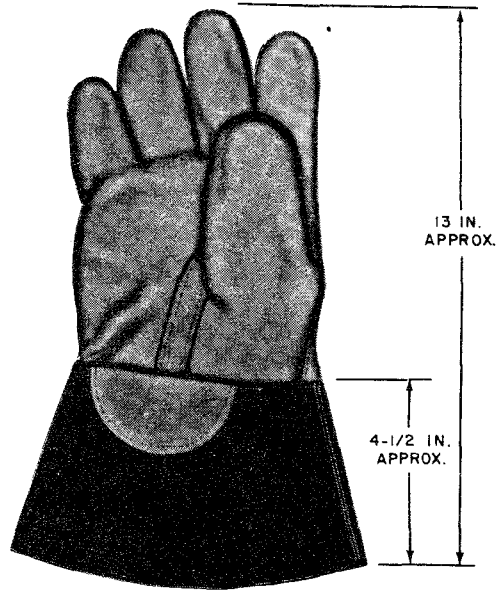

Figure 2 - Leather Protector Glove
4.01 The D leather protector gloves (Fig. 2) must be worn with F insulating gloves and may be worn with E insulating gloves for outside plant operations. Leather protector gloves do not provide protection from electrical shock and shall **never be worn except over** rubber insulating gloves. Leather protector gloves shall not be worn as work gloves.